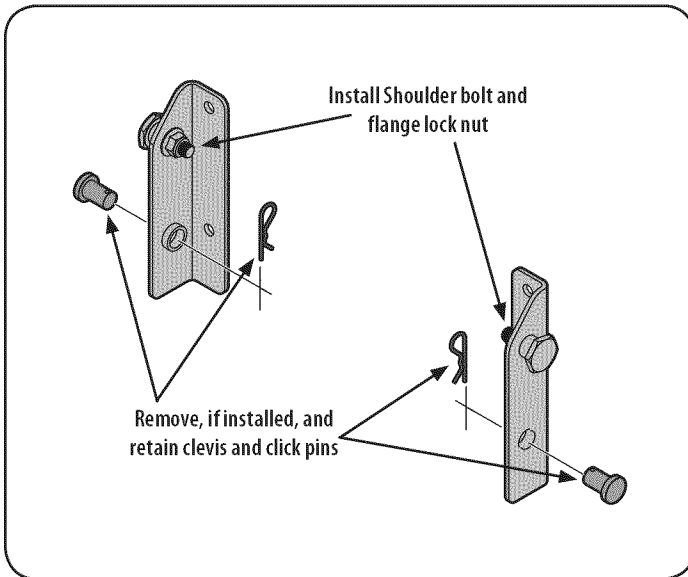

Figure 1
1. If not already installed by the factory, install a shoulder bolt from your hardware pack onto each bracket, securing them with flange lock nuts also included in the hardware pack included with these brackets. Refer to Figure 1.
2. If already installed in the brackets, remove the clevis pins and clips, retain for later instructions. Refer to Figure 1.
1. Place the hooked ends of the bagger mounting assembly over the shoulder bolts on the mounting brackets previously installed on the tractor in Figure 1.